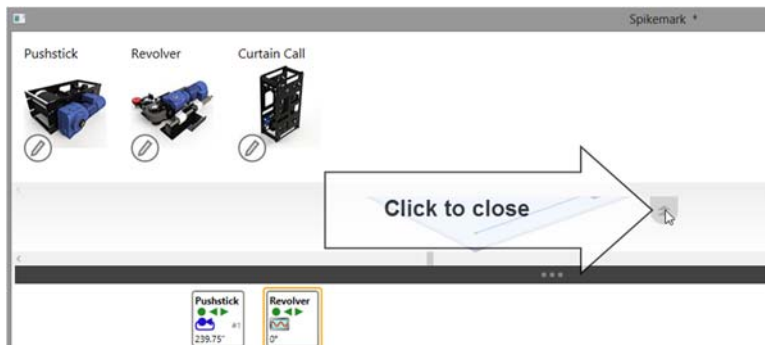

Figure 167
- To close the Machine Library panel, either press the Esc button or click the Machine Library close tab (Figure 167).